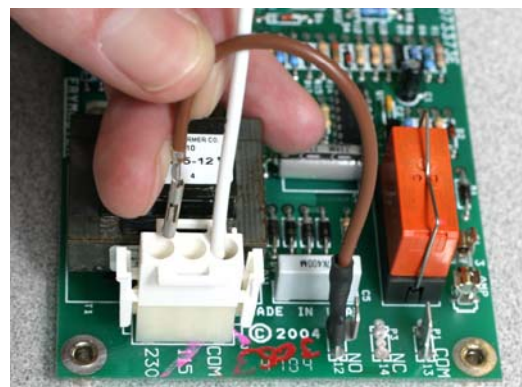

Figure 2: Plug the brown wire into the appropriate power outlet on the plug, 115 or 230.
3. Attach the provided power wiring harness to the new board, aligning the white wire pin to Common on the board. Attach the brown wire to the normally open spade on the board and plug the pinned end into the appropriate power outlet on the plug, 115V in center and 230V at rear. See **figure 2**.